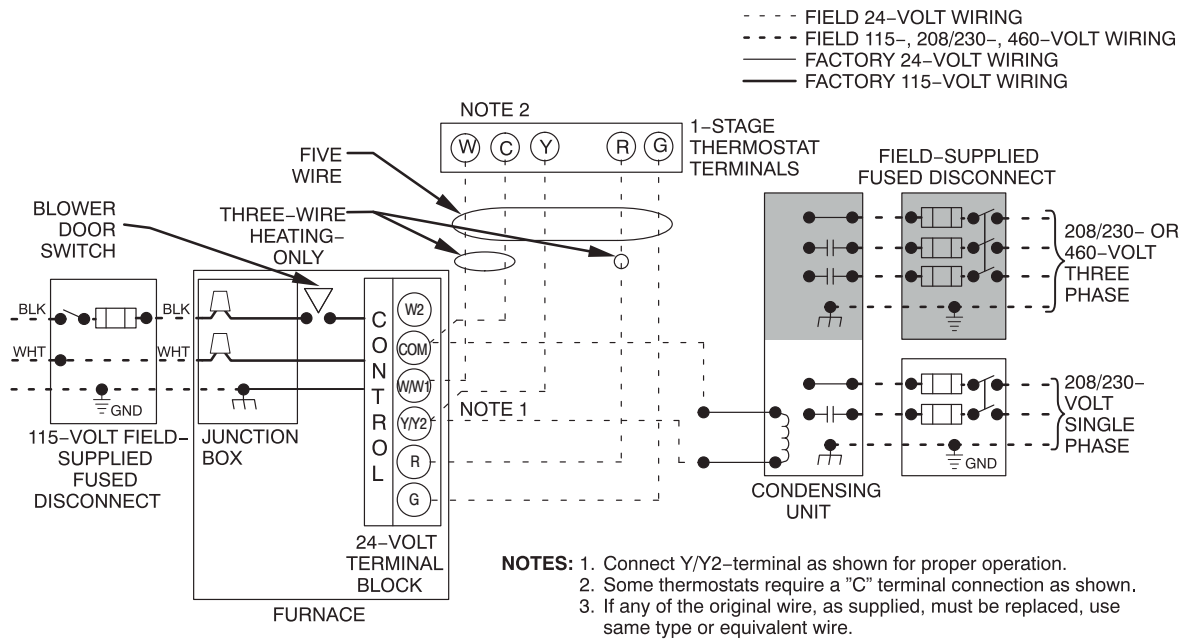

Fig. 38 - Typical Two-Stage Field Wiring Diagram
6. Connect power cord power and neutral leads to furnace power leads as shown in **Fig. 38**.
5. Connect field power and neutral leads to furnace power leads, as shown in **Fig. 38**.
Make field 24-v connections at the 24-v terminal strip. See **Fig. 39**. Connect terminal Y/Y2 as shown in Fig. 38 for proper cooling operation. Use only AWG No. 18, color-coded, copper thermostat wire.